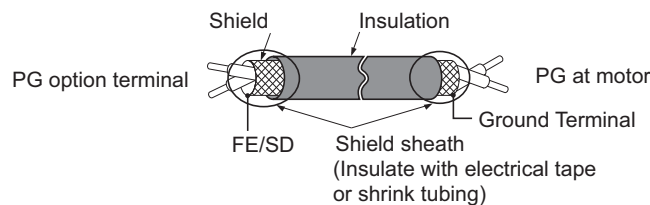
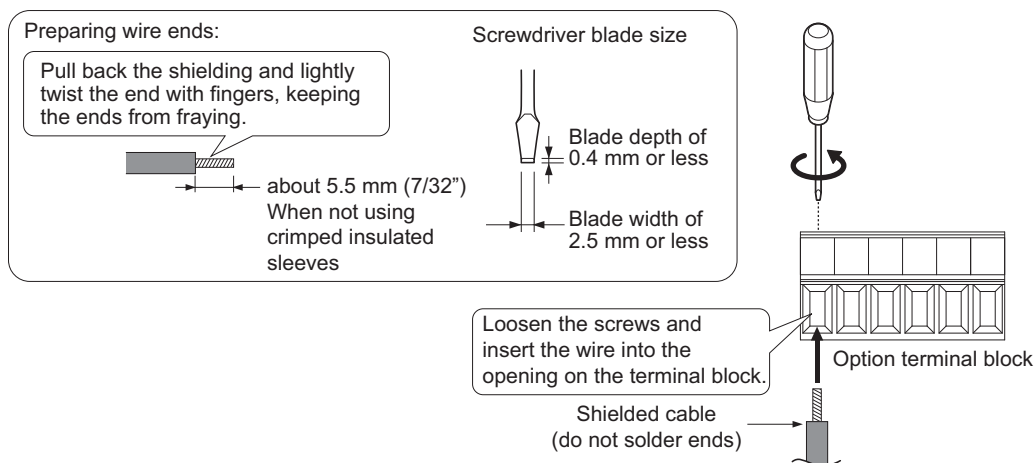

Figure 8.6 Preparing Ends of Shielded Cable
Figure 8.7 Preparing and Connecting Cable Wiring
2. There are two screw holes on the drive for use as ground terminals (I). When connecting three options, two ground wires will need to share the same drive ground terminal.
4. Prepare and connect the wire ends as shown in Figure 8.6 and Figure 8.7. Wire Gauges and Tightening Torques on page 323 to confirm that the proper tightening torque is applied to each terminal. Take particular precaution to ensure that each wire is properly connected and wire insulation is not accidentally pinched into electrical terminals.